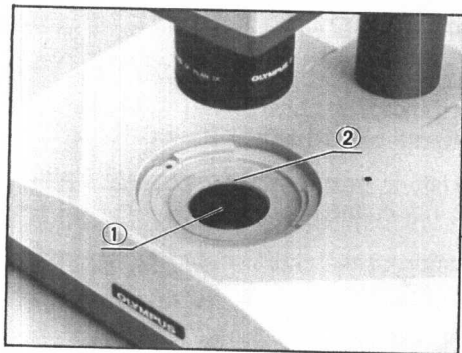

Fig. 16
- 3) Insert the filter into the filter mount ② just above the light exit glass ①. (Fig. 16)